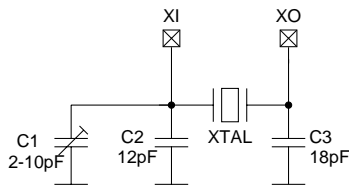

Figure 5: Crystal osc. resonator (assumes CL=10pF)
The on-chip crystal oscillator is a Pierce oscillator. The external components required are the crystal resonator and its load capacitance. The schematic diagram of the resonator is shown in Figure 5.
As in most oscillators, the performance is determined more by the resonator rather than the oscillator circuit, thus proper choice of the resonator is important. Here a high quality crystal for communication applications, such as NDK NX5032SA or NX4025GA is recommended. The load capacitors (C2 and C3 in Figure 5) must be approximately equal and should be set to twice the rated load capacitance (CL) specified by the crystal manufacturer. Good quality NPO ceramic capacitors are recommended for best oscillator stability. Stray capacitance (about 1.5-2pF) should also be taken into account. If desired a trimmer capacitor (C1) may be added in parallel to C2 for fine frequency adjustment.